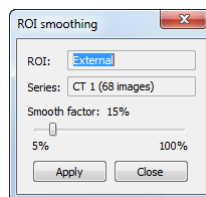

Figure 173 – ROI smoothing dialog
2. The **Smoothen ROI** dialog will be displayed (see Figure 173).